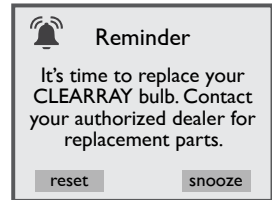

Figure 12.6d
4. When the timer expires, a message will appear on the control panel display, Figure 12.6d. The CLEARRAY UV bulb **must be replaced** (page 72) and the timer must be reset. Tap “reset” and follow the instructions above to reset the timer. If you tap “snooze” the message will clear but the error icon will display and the reminder screen will reappear in 10 days.